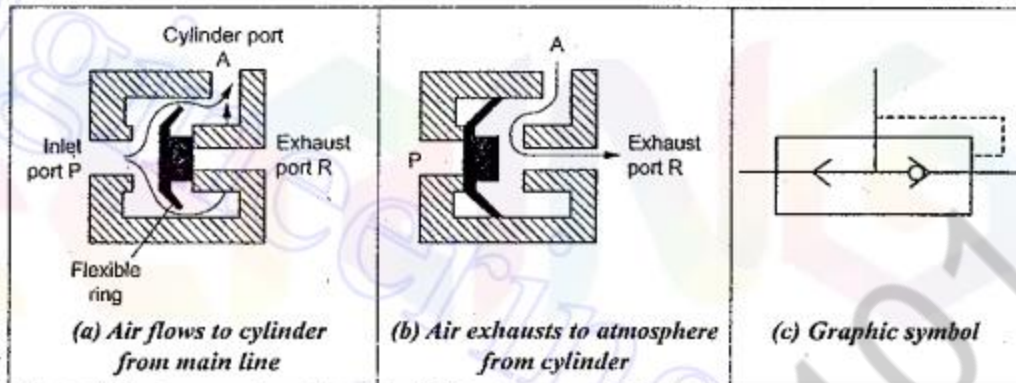

Fig. 12.6. Quick exhaust valve
The construction and operation of a typical quick exhaust valve is shown in Fig.12.6: It consists of a movable disc and three ports—an inlet port (P), and exhaust port (R), and a cylinder port (A). Its working principle is very much similar to that of a shuttle valve.
When the air flowing to the cylinder from the DC valve is applied at port P, then the flexible ring covers the exhaust port R, whereby the compressed air passes from port P to the cylinder through port A (Fig.12.6(a)).
But the return air from the cylinder pushes the flexible ring to cover the inlet port P, whereby the exhaust air immediately expelled to the atmosphere (Fig.12.6(b)). Thus the resistance to piston movement is reduced considerably and the speed of the piston in the cylinder is accelerated proportionately.